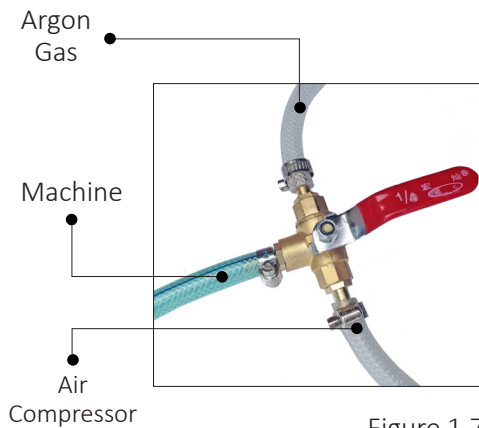

Figure 1.7
*a) If you switch from plasma cutting to TIG welding quite often, consider buying a LOTOS 3 way valve kit to connect both the argon tank (Figure 1.7) and the air compressor simultaneously.*